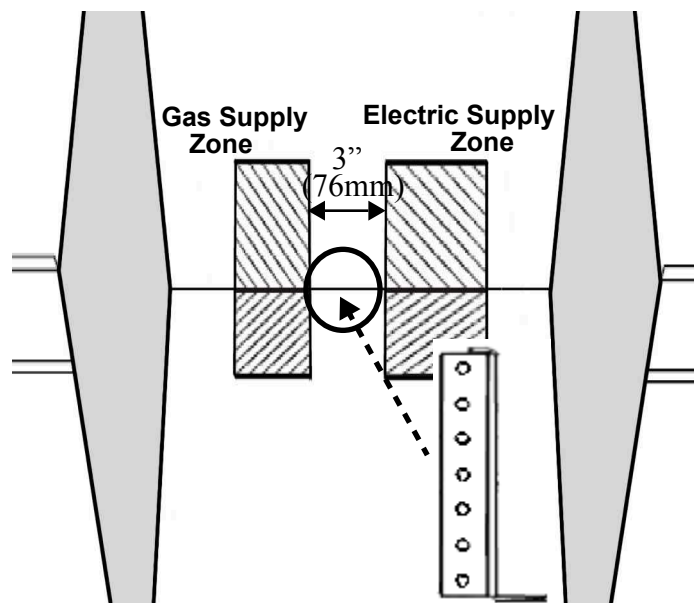
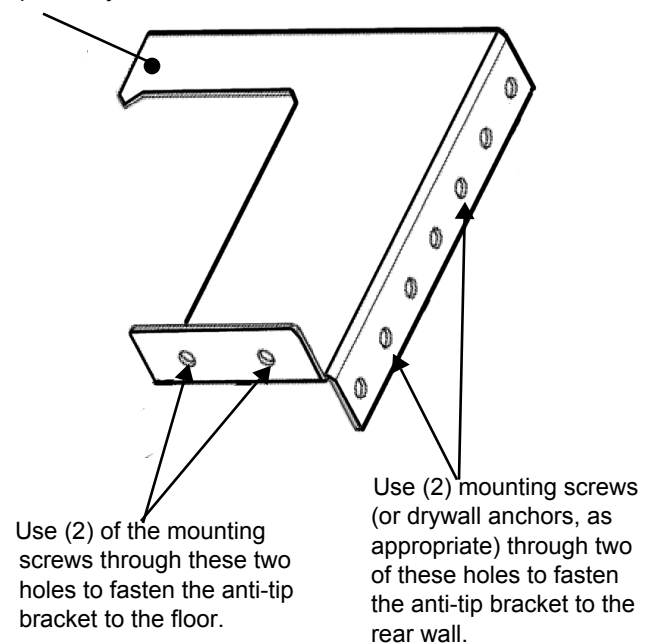

FIGURE 11: ANTI-TIP BRACKET MOUNTING LOCATION
FIGURE 12: ANTI-TIP BRACKET
- In all cases, at least (2) of the bracket mounting screws must firmly fasten the anti-tip bracket to the floor, and (2) of the mounting screws (or drywall anchors) must firmly fasten the anti-tip bracket to the rear wall (see *Figure 11* and *Figure 12*).
2. Place bracket on floor near the center of where the unit is to be finally located (shown in *Figure 11*).